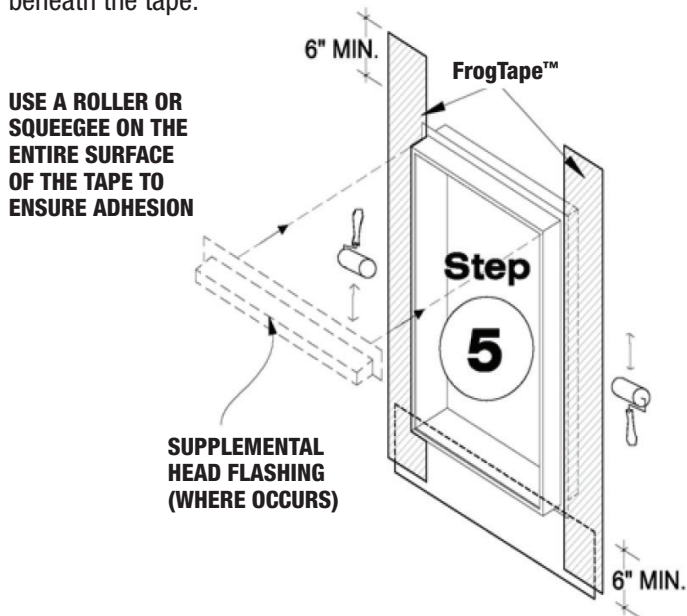

Figure 6 Apply jamb flashing.
Step 5. Precut FrogTape Pro Grade Flashing Tape for the jambs to extend a minimum of 6 in above and below the prepared rough opening. Peel off release liner and adhere FrogTape Pro Grade Flashing Tape over the jamb fins and over top of FrogTape Pro Grade Flashing Tape (see Figure 6). Use a roller to apply sufficient pressure along the entire surface of the tape to ensure adhesion and a continuous seal, eliminating any wrinkles, creases or trapped air beneath the tape.